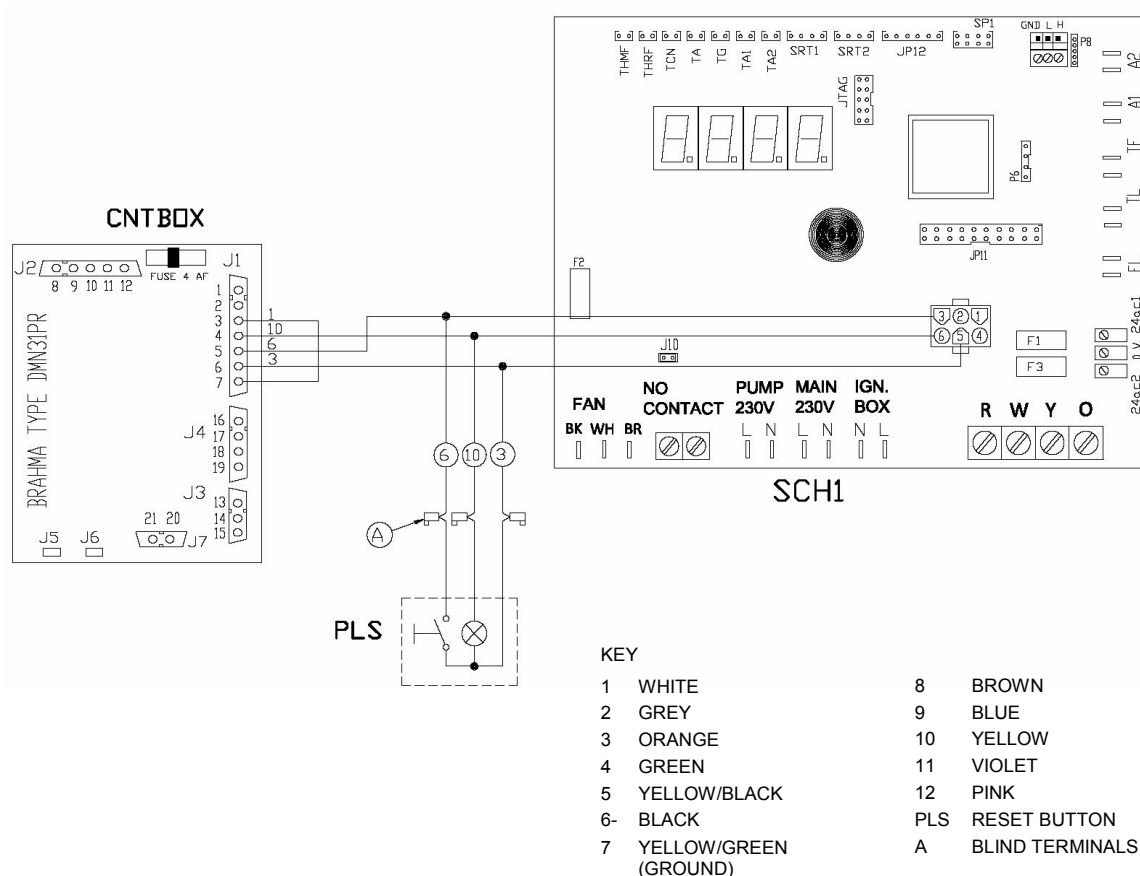

Figure 36 – Button connection for flame controller reset
3. Connect the cable to the blind terminals A (see Figure 36).